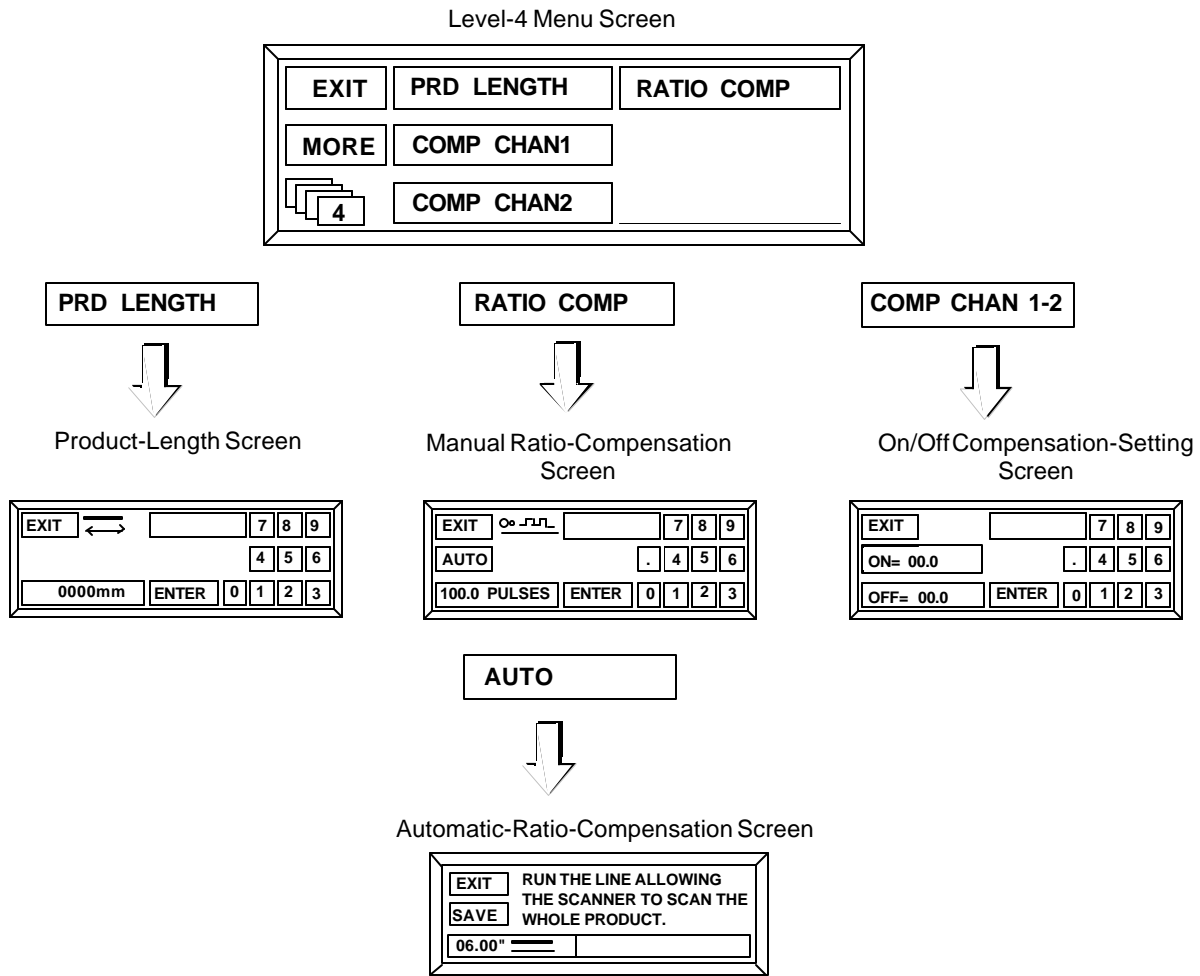

Figure 23. Level-4 Menu Screen and Associated Screens
The level-4 menu screen (Figure 23) displays when the “MORE” button on the level-3 menu screen is pressed. The small box with the numeral 4 indicates that this is the level-4 menu screen. The function of each button is as follows:
- Level-4 menu screen and associated screens—Figure 23 (Page 39)